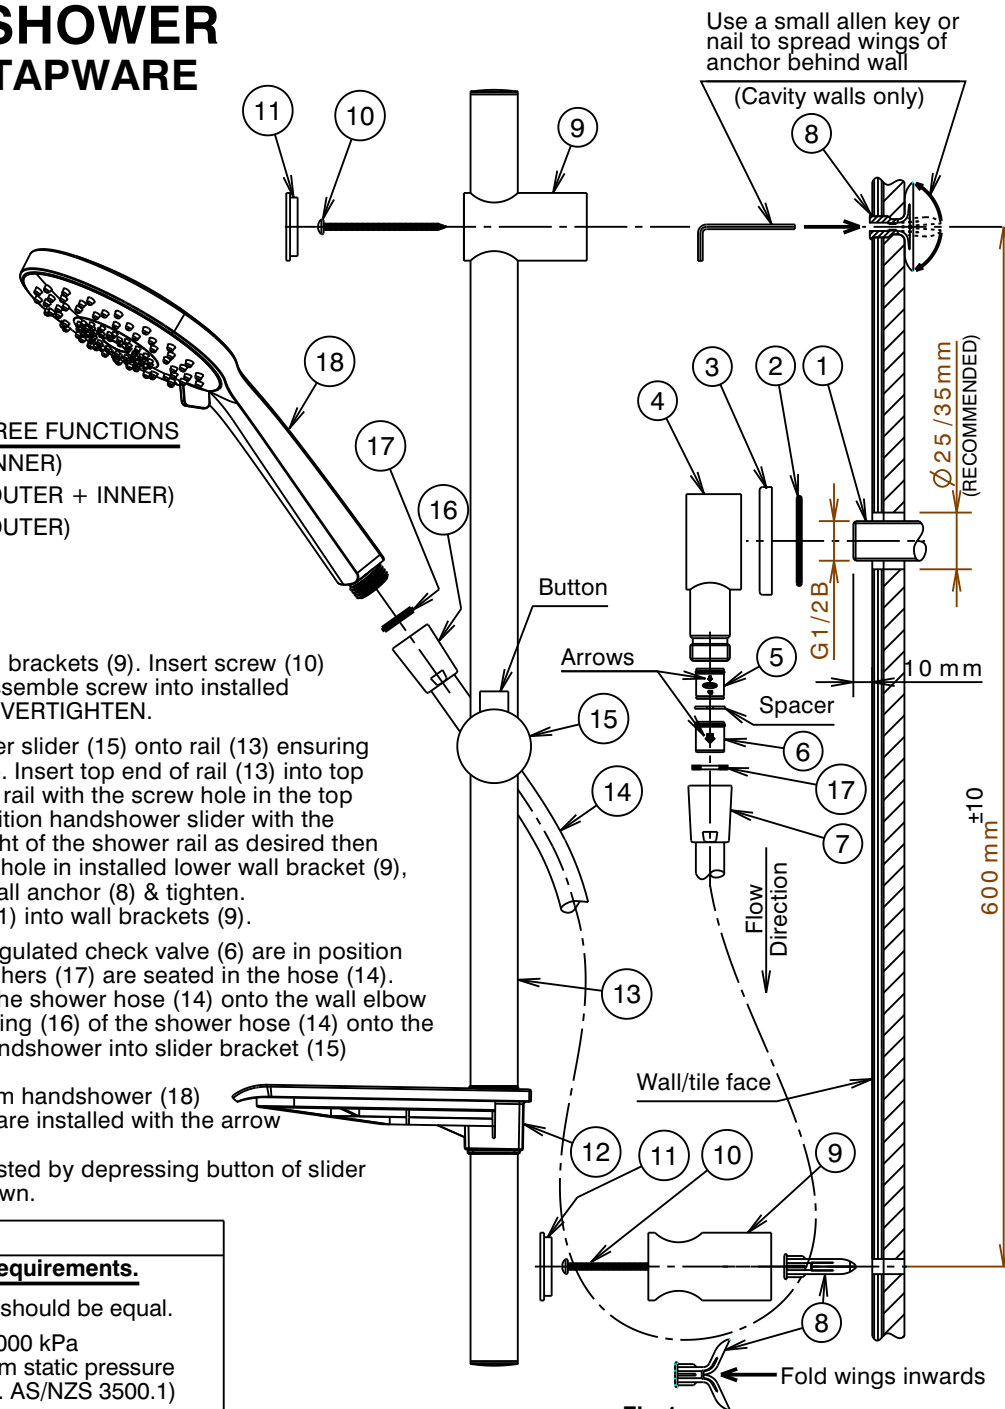

Fig.1 IS1644B(04/21)
- ii) Fold the wings of the anchors (8) inwards, as shown.
- iii) Insert the folded anchor (8) into each drilled hole and tap until the head is flush with the wall surface.
- iv) Insert a small allen key or nail into the hole of the anchor (8) to spread the wings of the anchor behind the wall (Fig.1).